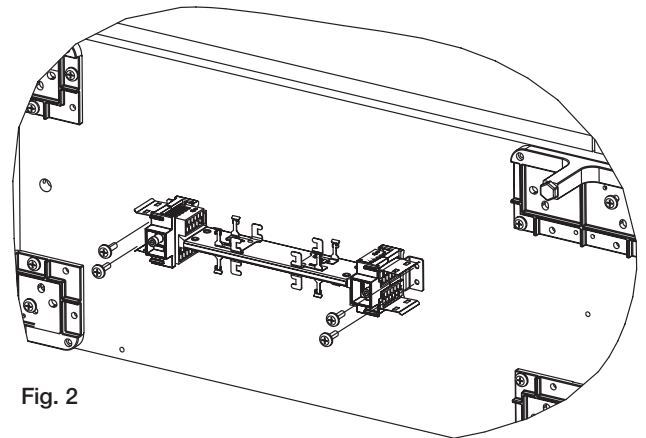

Fig. 2
2. Install the distribution harness to the underside of the unit using the 4 screws, provided. Use an extended length driver bit to clear the harness assembly. Harness position is to be determined on-site. (Fig. 2)